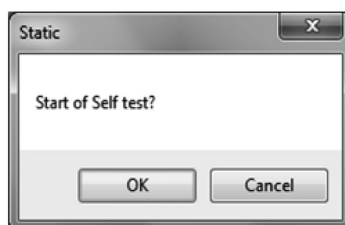

Fig.118
- ③ Click the "OK" button to display a message box (Fig. 118).